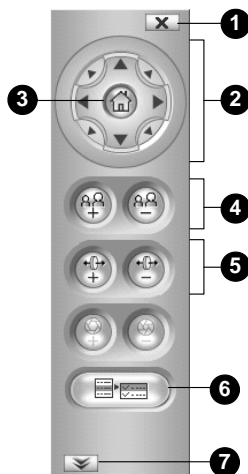

Figure 1-15
On initial installation, it is advised that you adjust the focus for image clarity. Print out the diagram of radiating lines included on Software DVD and hang up the diagram at the surveillance area. Use the **Zoom In / Out** and **Focus In / Out** buttons on the PTZ control panel from the Web interface (No.4 and 5, Figure 1-15) and adjust the PTZ Camera until it displays clear radiating lines as shown in picture on the left.
When the camera view is fuzzy, you may use the auto focus feature to obtain a sharper view. On the PTZ control panel, click the **Option** button (No. 6, Figure 1-15) and select **AF** for automatic focus.
To access PTZ camera settings, click the **Option** button (No. 6, Figure 1-15) on the PTZ control panel and select **Setup**. The setup dialog box appears.
The VISCA OSD Configuration contains three groups of settings: image settings, PTZ settings and system configuration. To access these settings, click the **Option** button (No.6, Figure 1-15), select **Setup** and click **Open**. The dialog box appears. Alternatively, you can click **Digital I / O and PTZ** on the Web interface and select **PTZ Setting**.
1. Use one of the **Pan / Tilt Control** buttons (No. 2, Figure 1-15) to move the camera to a desired point in live view.
2. To save this Preset point, click the **Option** button (No. 6, Figure 1-15), select **Preset Set** and select the desired Preset number
1. Click the **Option** button (No. 6, Figure 1-15), select **Preset Set** and select **Naming**. The dialog box appears.
To start a Preset movement, click the **Option** button (No. 6, Figure 1-15), select **Preset Go**, and select a **Preset** number which has been set previously.
1. Click the **Show Preset** button (No. 7, Figure 1-15) to open the number pad.
To stop a Preset movement, click the **Home** button (No. 3, Figure 1-15) or click one of the **Pan / Tilt Control** button (No. 2, Figure 1-15).
To start a Sequence, click the **Option** button (No. 6, Figure 1-15) select **Auto** and select a **Go Sequence** number which you have set previously.
To stop a Sequence, click on a **Pan / Tilt Control** button (No. 2, Figure 1-15) or the **Home** button (No. 3, Figure 1-15).
2. On the control panel, click the **Option** button (No. 6, Figure 1-15), select **Auto** and select a **Set Auto Pan** number.
4. Click the **Option** button (No. 6, Figure 1-15), select **Auto** and select an **End Auto Pan** number to save this configuration.